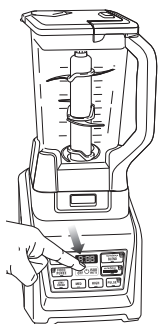

Fig. 7
- 12 Press the power button to turn on the unit. Select the speed or Auto-iQ program that best suits your needs. The Auto-iQ program will stop the appliance automatically at the end of the program. (Fig. 7)